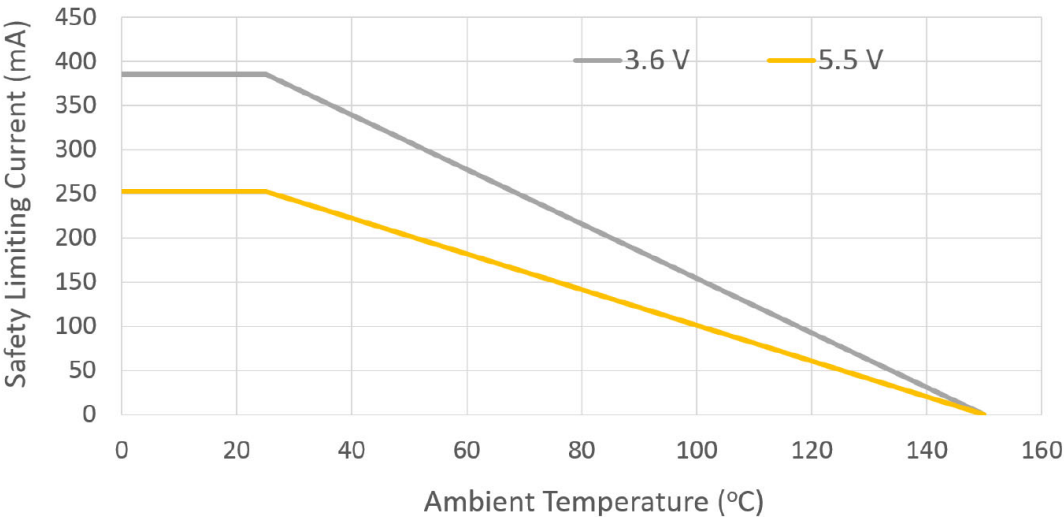
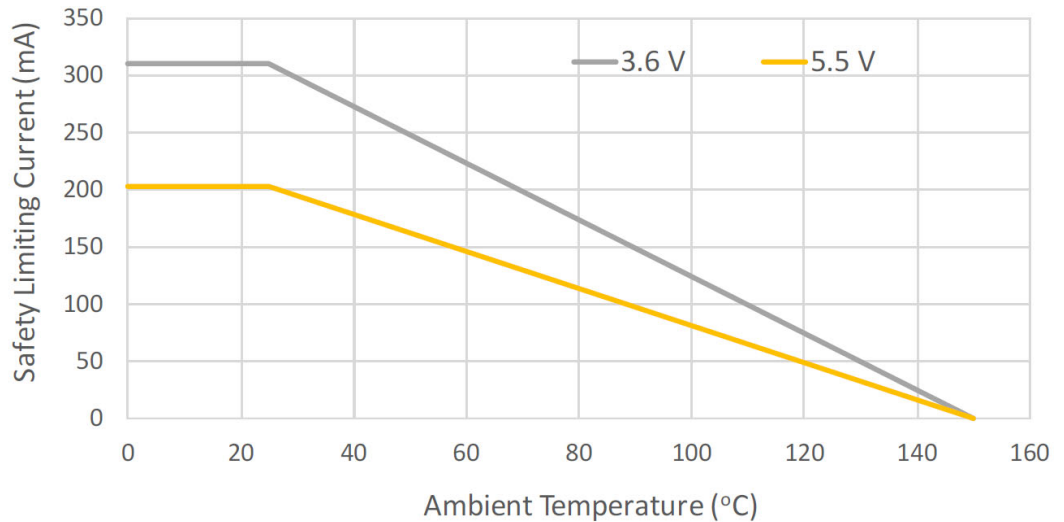

Figure 41. WB Stretched SOIC-8 Safety Current vs. Ambient Temperature Derating Curve
Figure 42. NB SOIC-8 Safety Current vs. Ambient Temperature Derating Curve
1. Maximum value allowed in the event of a failure. Refer to the derating curves Figure 41, “WB Stretched SOIC-8 Safety Current vs. Ambient Temperature Derating Curve,” on page 18 and Figure 42, “NB SOIC-8 Safety Current vs. Ambient Temperature Derating Curve,” on page 18.